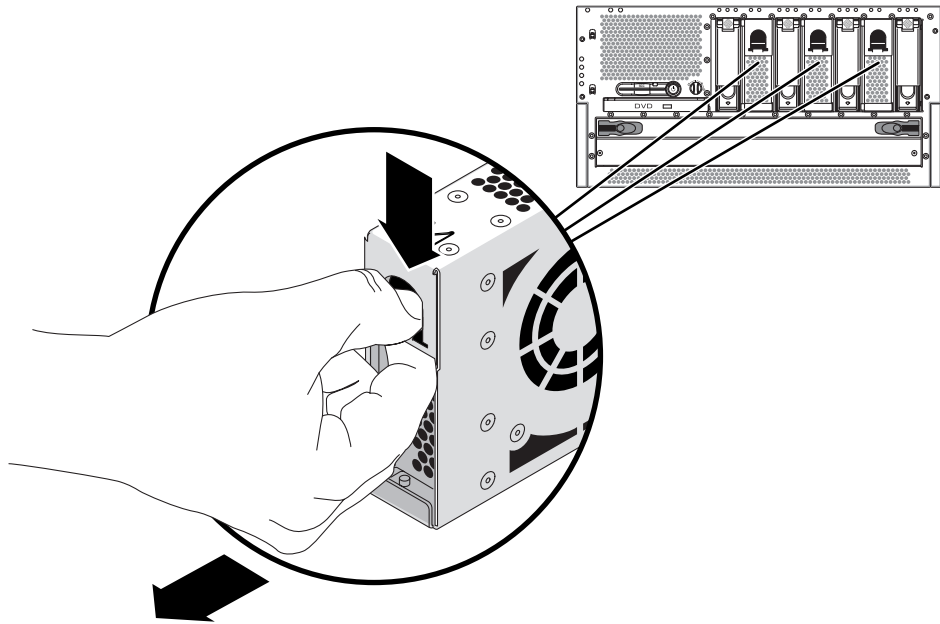

FIGURE 3-2 Removing a Fan Tray
4. Pull down on the handle at the top of the fan tray to lower the fan tray catches (FIGURE 3-2).